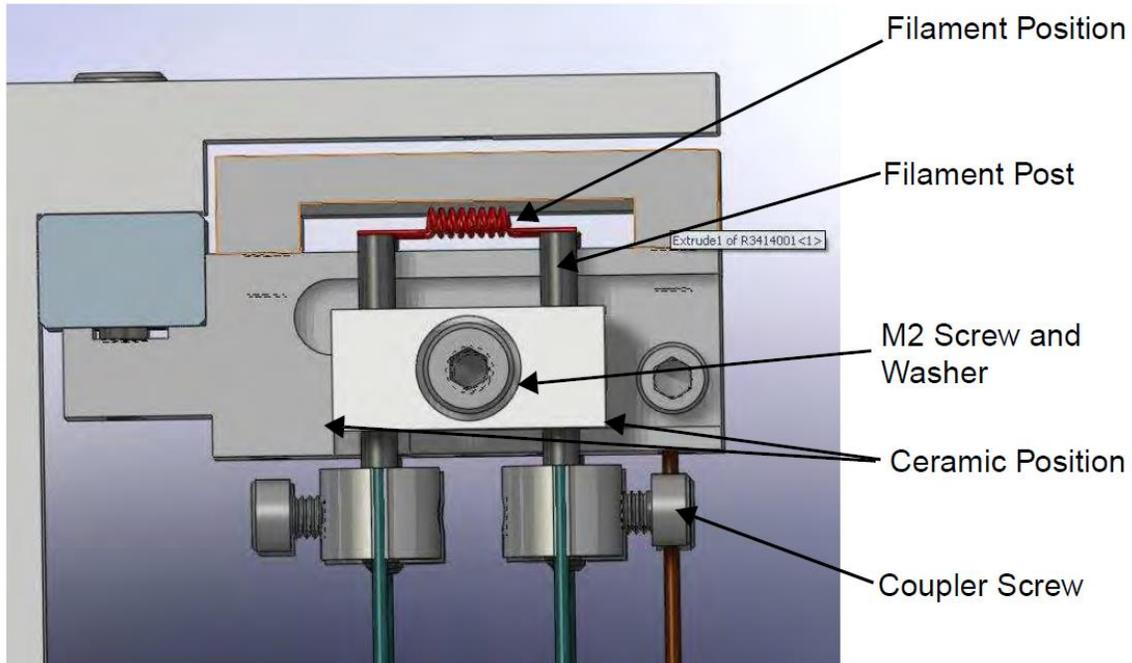

Figure 2-5. Filament positioning
13. Guide the ceramic against the bottom and side surfaces of the ion chamber (see Figure 2-5).